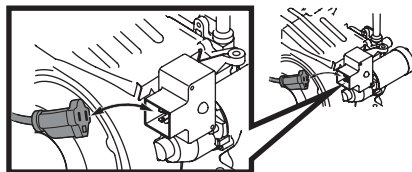

Figure 9
3. Plug an extension cord into the electric starter inlet located on the engine's surface. Plug the other end of extension cord into a three-prong 120-volt, grounded, AC outlet in a well-ventilated area (Figure 9).